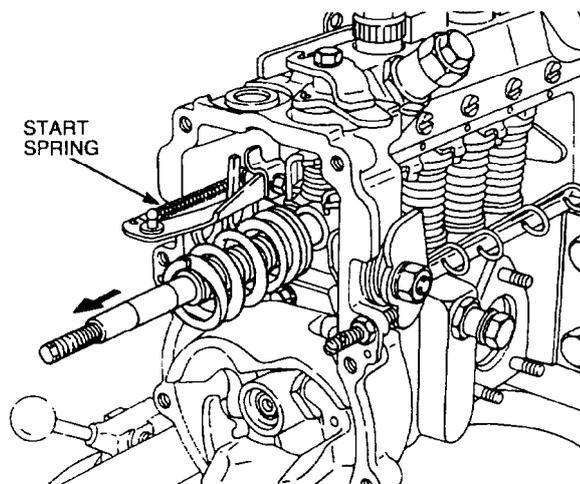

Figure 86 Removing the Governor Shaft and Start Spring
- i.** Remove the governor shaft complete with springs and spring seat from the housing. Disconnect the start spring from the rack connecting link (Figure 86).